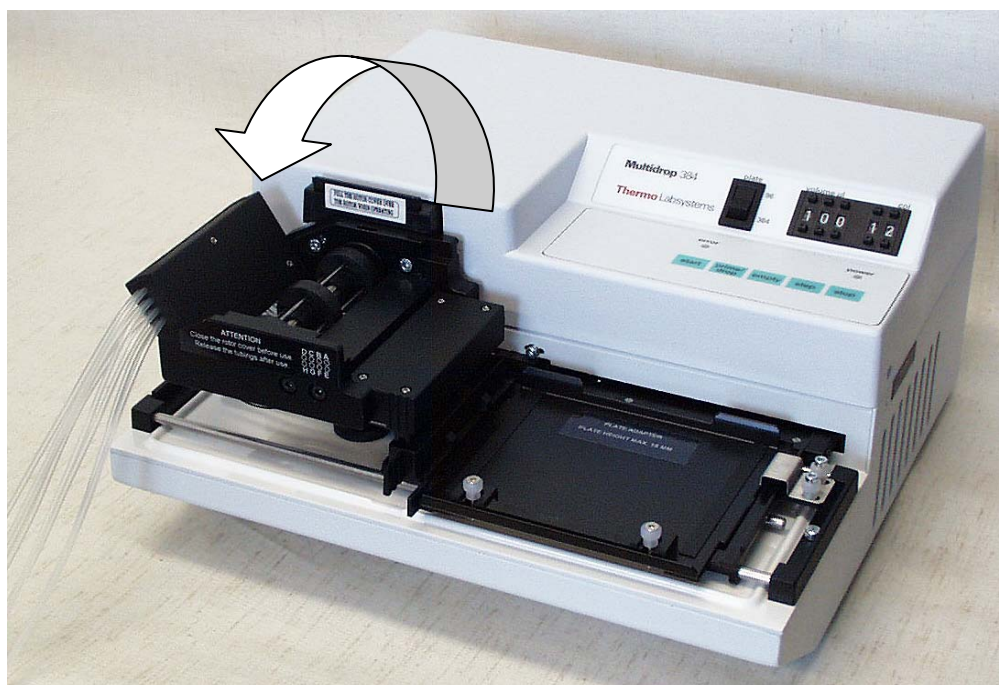

Fig. 6.18 Rest position of the dispensing cassette
If there is only a short break in dispensing, no washing or cleaning of the tubes is necessary. However, after pressing the **empty** key, release the tubing tension by pulling the upper part of the cassette from its slots and place it into its rest position slots located on the left-hand side of the rotor (Fig. 6.18).
After washing, store the dispensing cassette in the rest position (Fig. 6.18).
If there is only a short break in dispensing, no washing or cleaning of the tubes is necessary. However, after pressing the **empty** key, release the tubing tension by pulling the upper part of the cassette from its slots and place it into its rest position slots located on the left-hand side of the rotor (*Fig. 6.18*).
After washing, store the dispensing cassette in the rest position (*Fig. 6.18*).
2. Install the dispensing cassette into the Multidrop 384 if it is not already installed. Place the dispensing cassette into the rest position (*Fig. 6.18*). Refer to section 6.3 How to insert the priming vessel and the dispensing cassette.